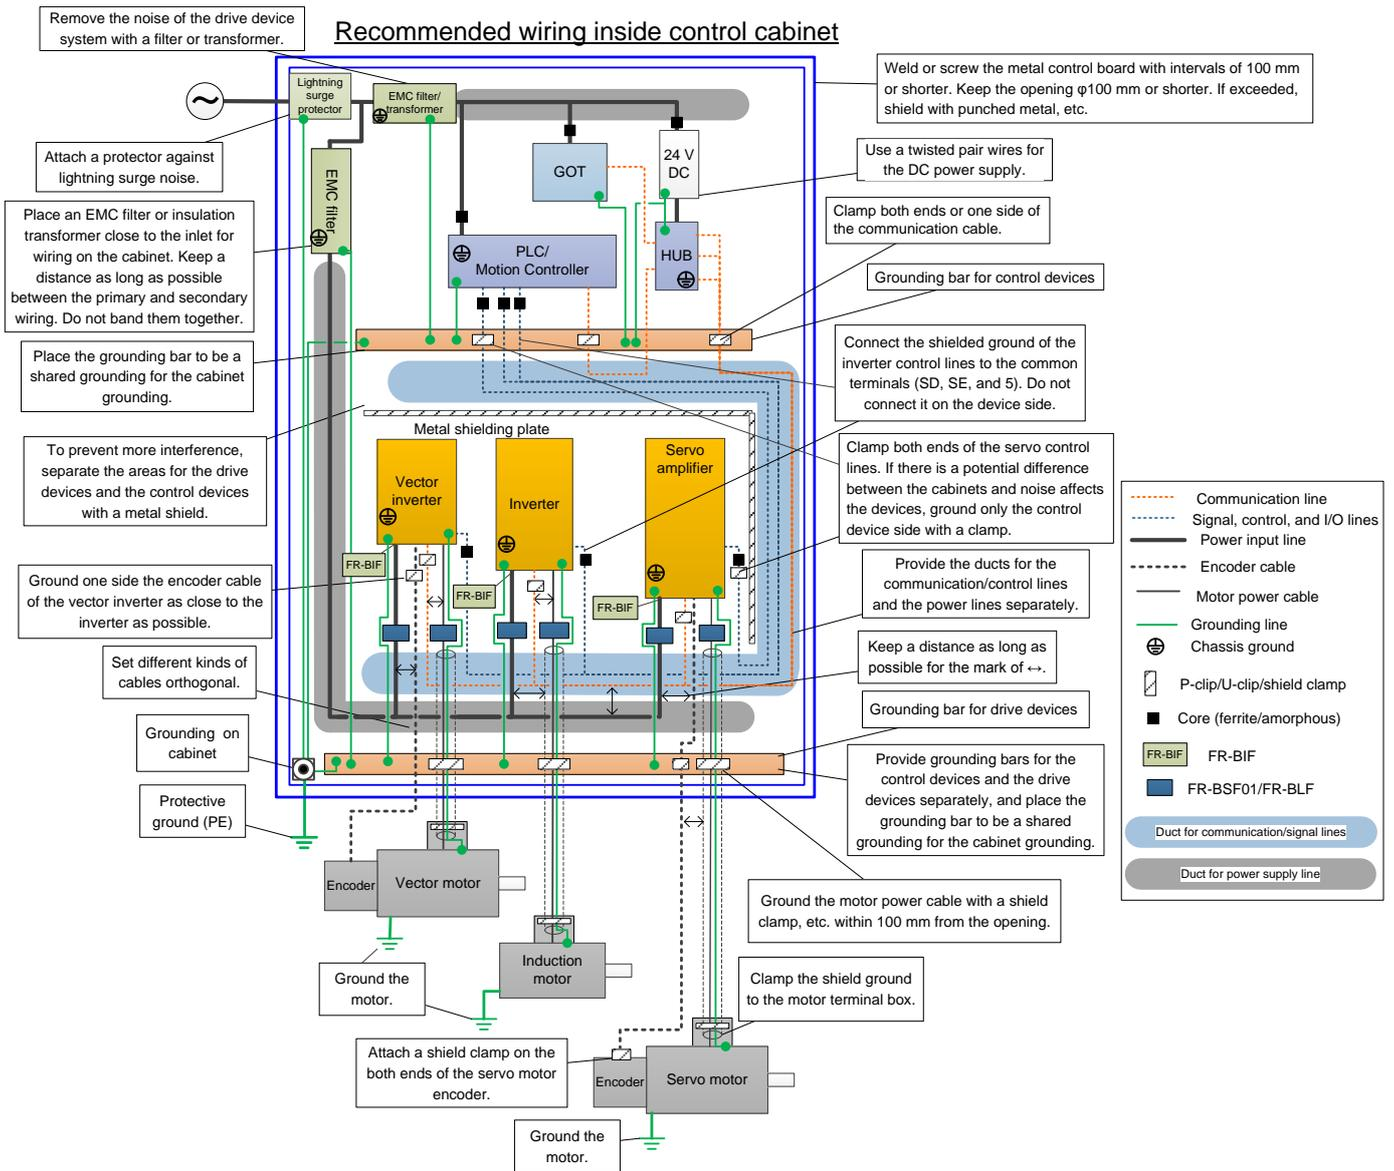

Fig. 26. Recommended wiring diagram inside cabinet (control devices and drive devices in one cabinet)
2) Figure 26 shows a recommended wiring diagram inside cabinet including the layout, wiring, countermeasure member, and grounding for when there are the control devices and drive devices together in the same cabinet. (having difficulty of separating cabinets)